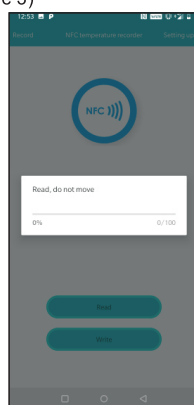

Figure 3
3. Click for scanning (Figure 3)